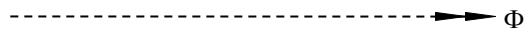

Figure 11
Step 4: Locate voltages and currents on the phasor diagram, see figure 11.